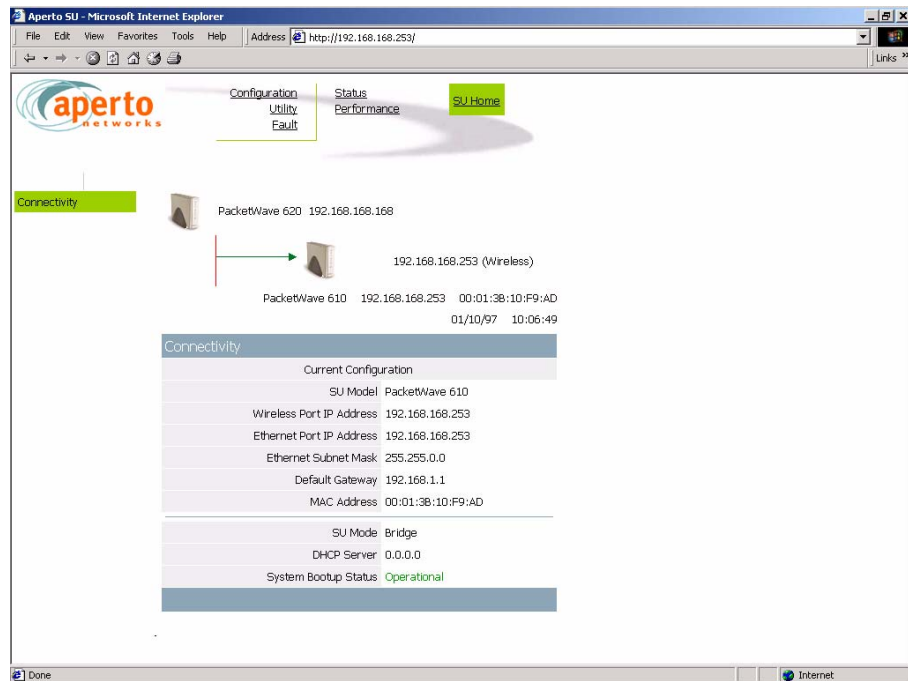

Figure 4-2 Web GUI Home Page (ISP logon)
6. Wait for the Web interface home page to open, as shown in *Figure 4-2* for isp logon. If you logon as subscriber, some of the screen items will not be shown.
As shown in *Figure 4-2*, the home page provides a graphical representation of base station-to-subscriber connectivity. The arrow pointing to the Indoor Unit icon indicates wireless channel status: green if good or red if down. Additional configuration and status information related to basic SU connectivity is presented in a table below the graphics.